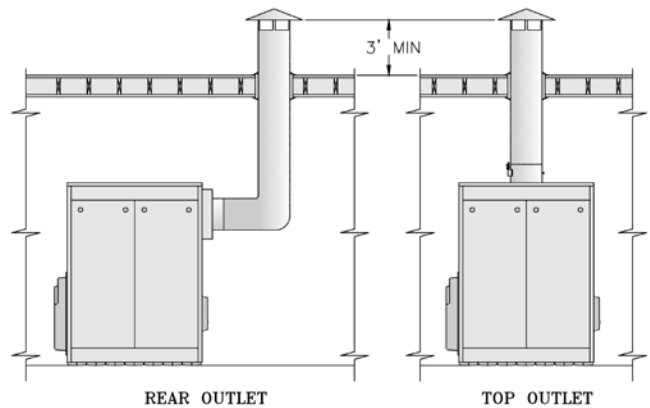
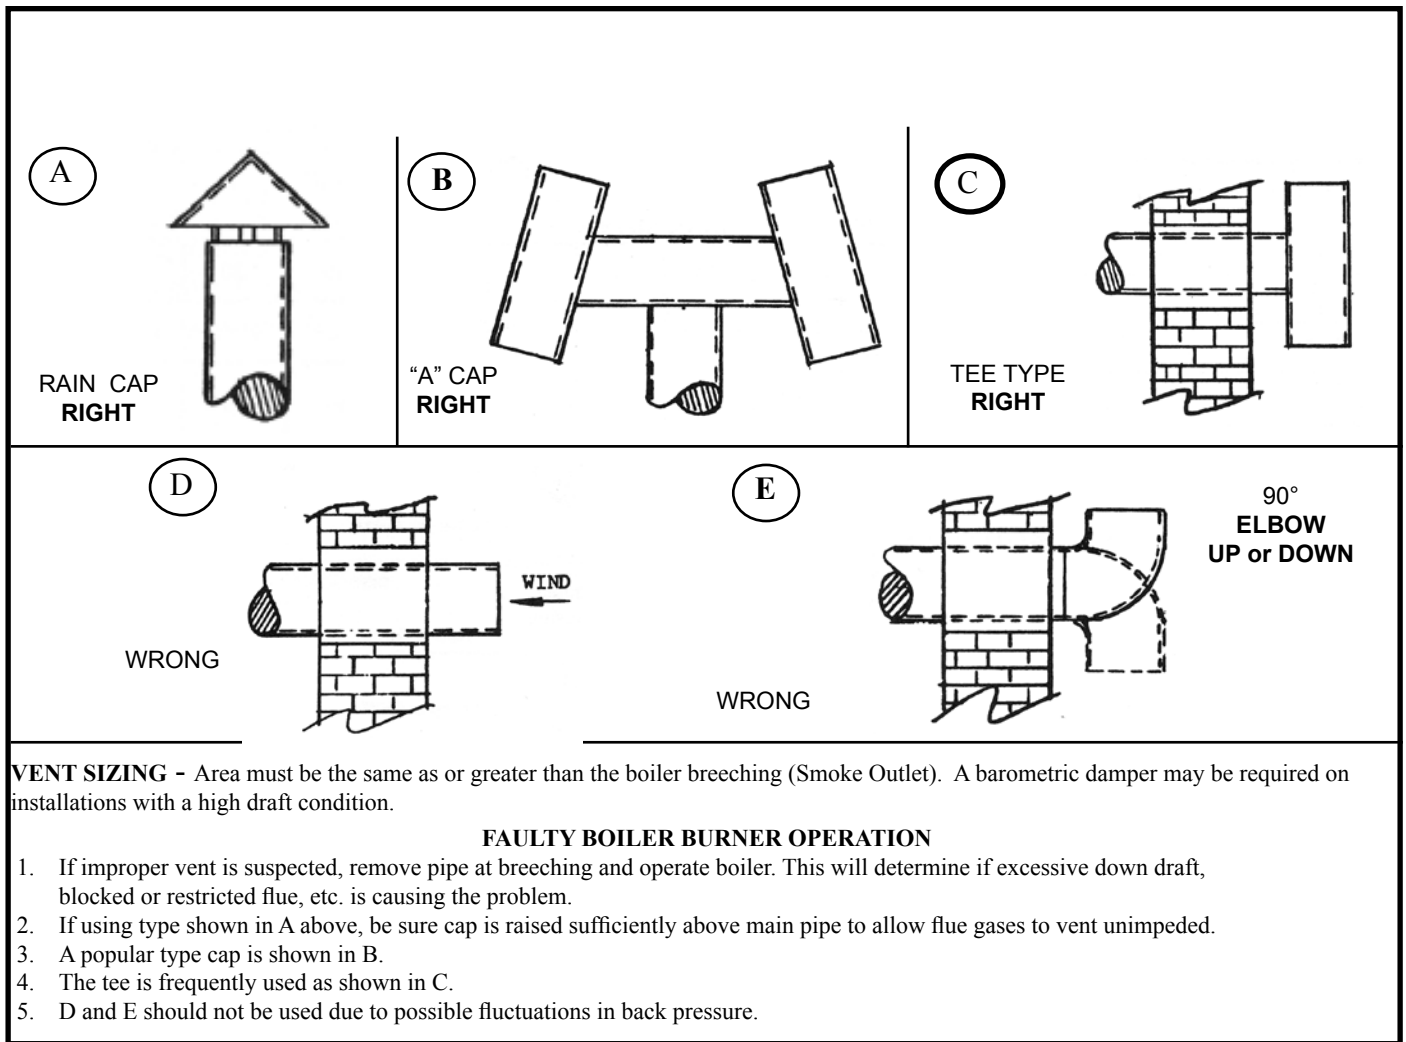

Figure 3a: Typical Arrangement for Stub Vent
Figure 3b: Vents — Faults & Suggestions
The V9A Series boiler is designed for forced draft firing and may be used with a conventional natural draft stack (15' minimum height) or a stub vent, sometimes called a diesel stack (see Figure 3a). See Table I for the proper vent outlet size. For low silhouette vent terminations, see Figure 3b. Draft controls are not normally required, although they may be used on installations where a natural draft stack is used or on multiple boiler installations with a common stack. The boiler is provided with a breeching damper, which should be adjusted to maintain a positive pressure of 0.1" W.C. in the vent connector box during burner high fire operation (see breeching pressure sensing port in Figure 1).
If the venting system is designed for positive or forced draft venting, the boiler, vent connector and stack will operate under positive pressure. Gas tight vent systems designed for pressure systems must be used to prevent flue by-product leakage. The vent height is usually limited to prevent negative draft, typically three (3) feet above the roof line (see Figure 3a). The damper shall be adjusted to maintain a positive pressure of 0.1" W.C. in the vent connector box during burner high fire operation (see breeching pressure sensing port in Figure 1).